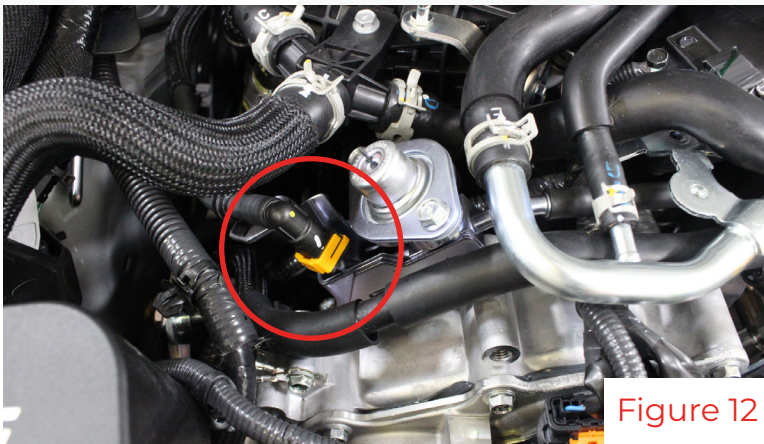
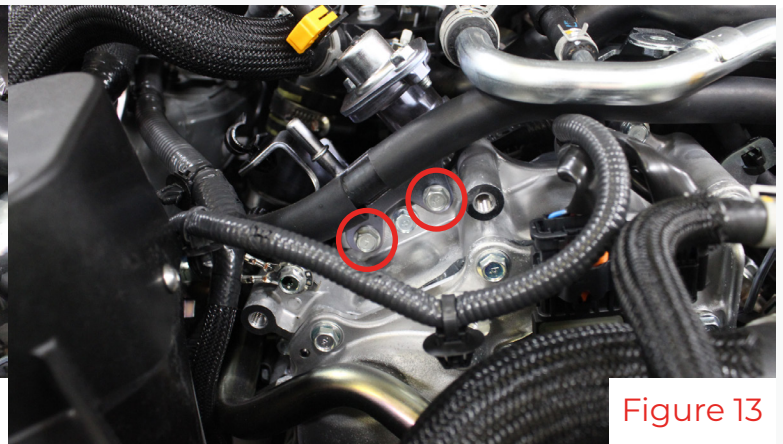

Figure 12
Figure 13
7. Release the yellow fuel line lock and disconnect the fuel line from the damper assembly(fig 12). Remove the two bolts mounting the damper assembly to the engine(fig 13).